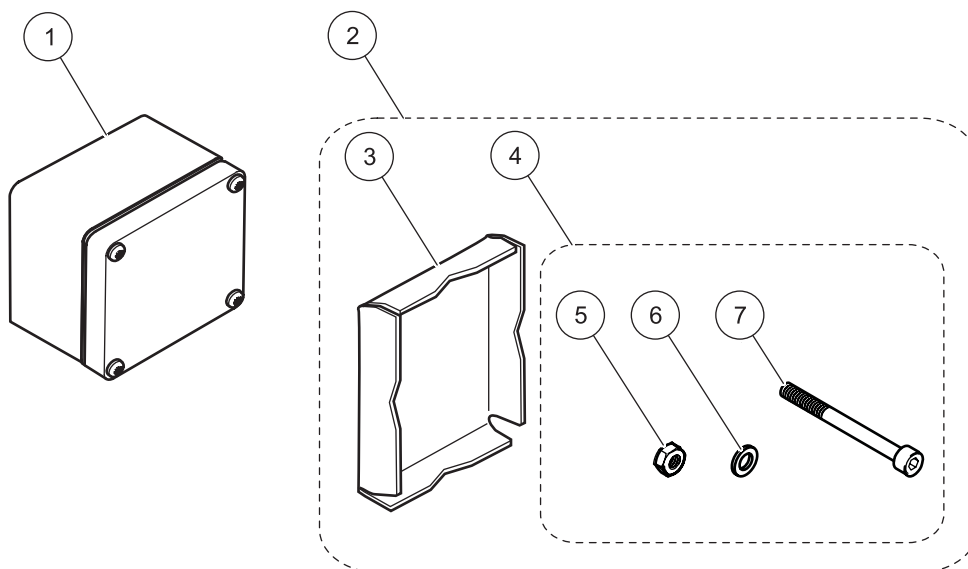
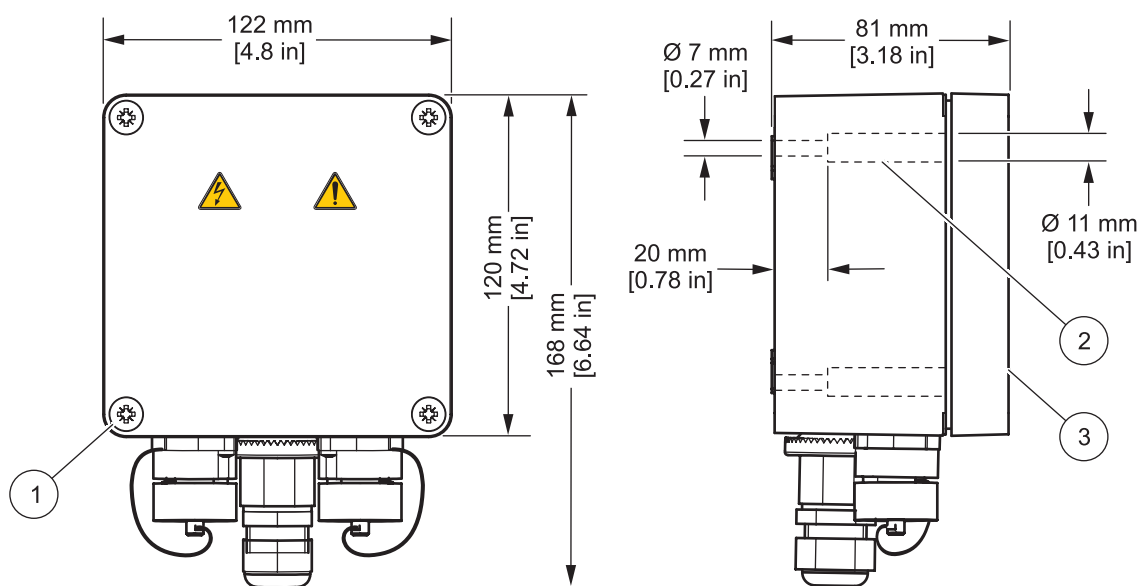
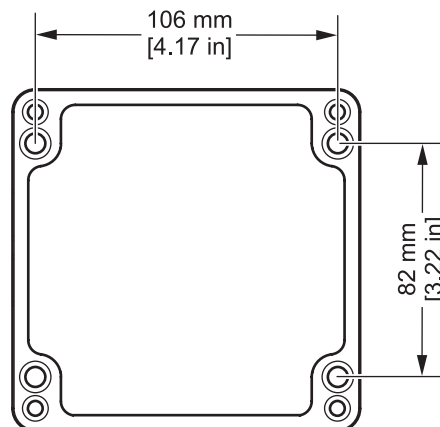

Figure 1 Items supplied with the power connection box (LQV155.99.0000x).
Figure 2 Dimensions
Figure 3 Installation dimensions
Items supplied with the power connection box are shown in Figure 1 on page 2. Not all items in the hardware set may be required. Only the parts used in these instructions are listed.
Installation dimensions are shown in Figure 2.
1. Loosen the four cover screws and remove the cover (see Figure 2).
2. Mount the housing, using the four supplied screws (see Figure 1 on page 2 and Figure 2 on page 2). Refer to Figure 3 for mounting dimensions.